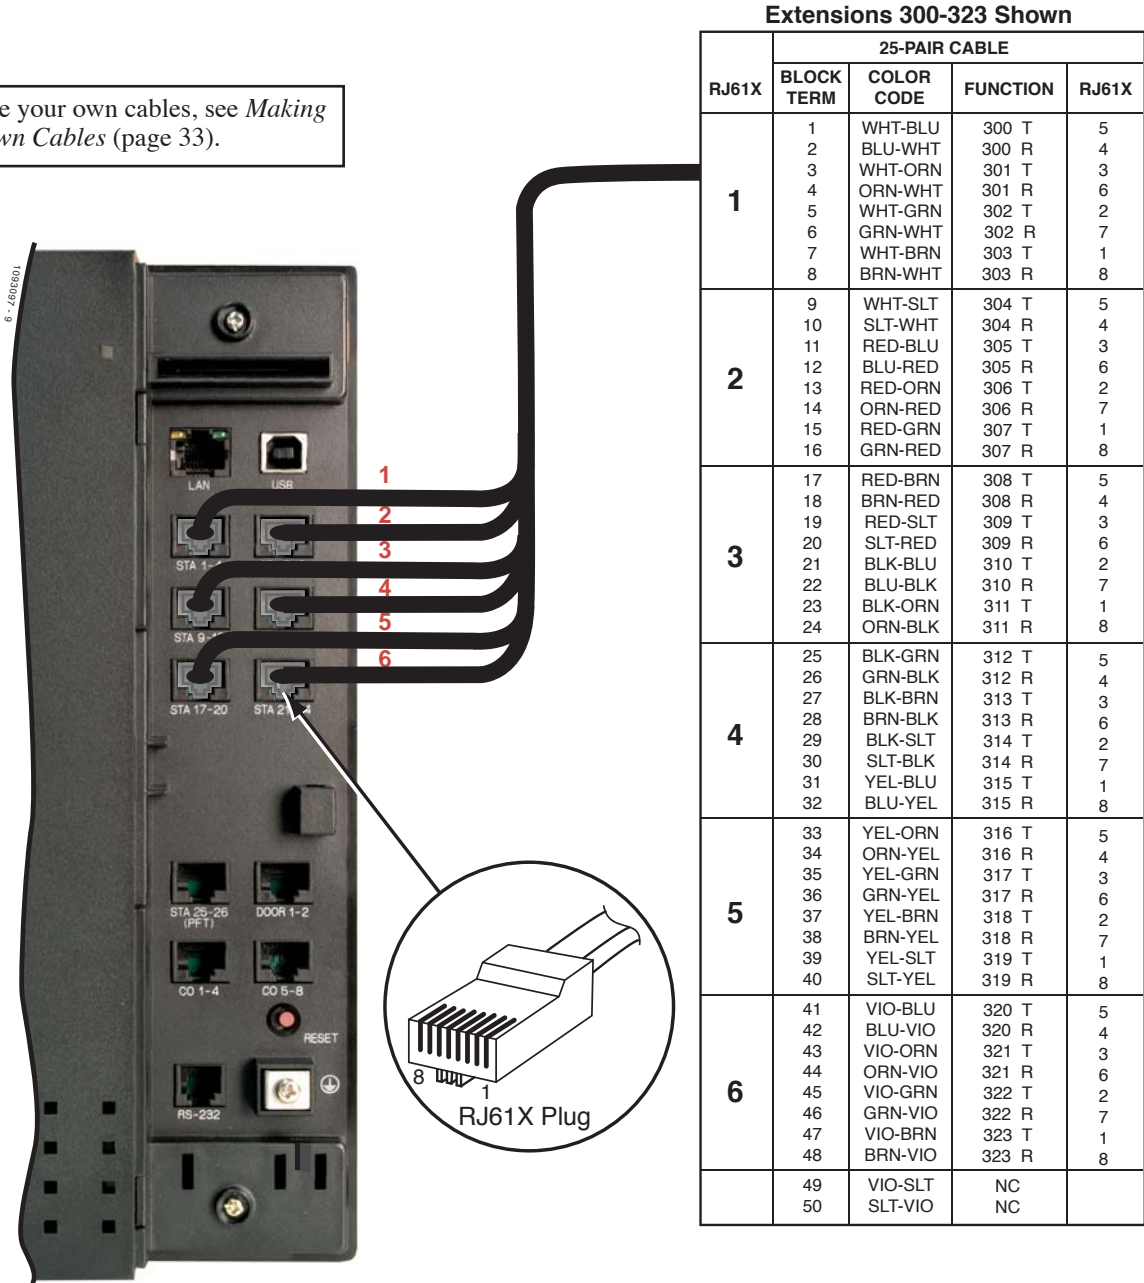

Figure 9: Punch Down for Extensions
1. Using *Figure 9: Punch Down for Extensions* (page 30) as a guide, plug the installation cable plugs into the appropriate jacks on the Main Equipment Cabinet.